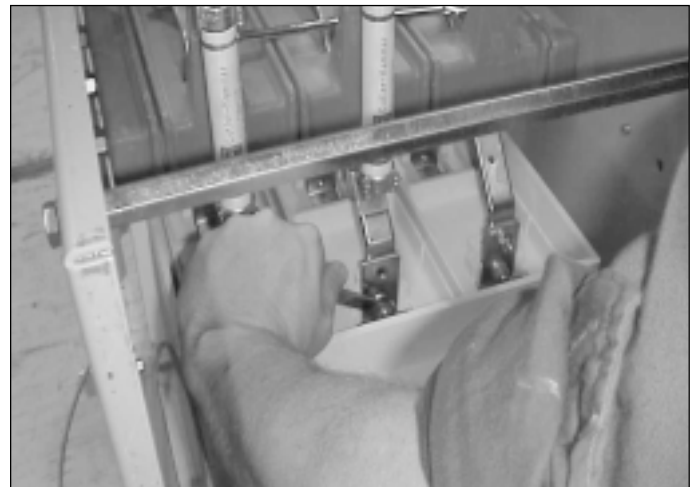

Fig. 21
2. Remove bolt and shunt supports securing end of lower terminal to housing (Figure 21).